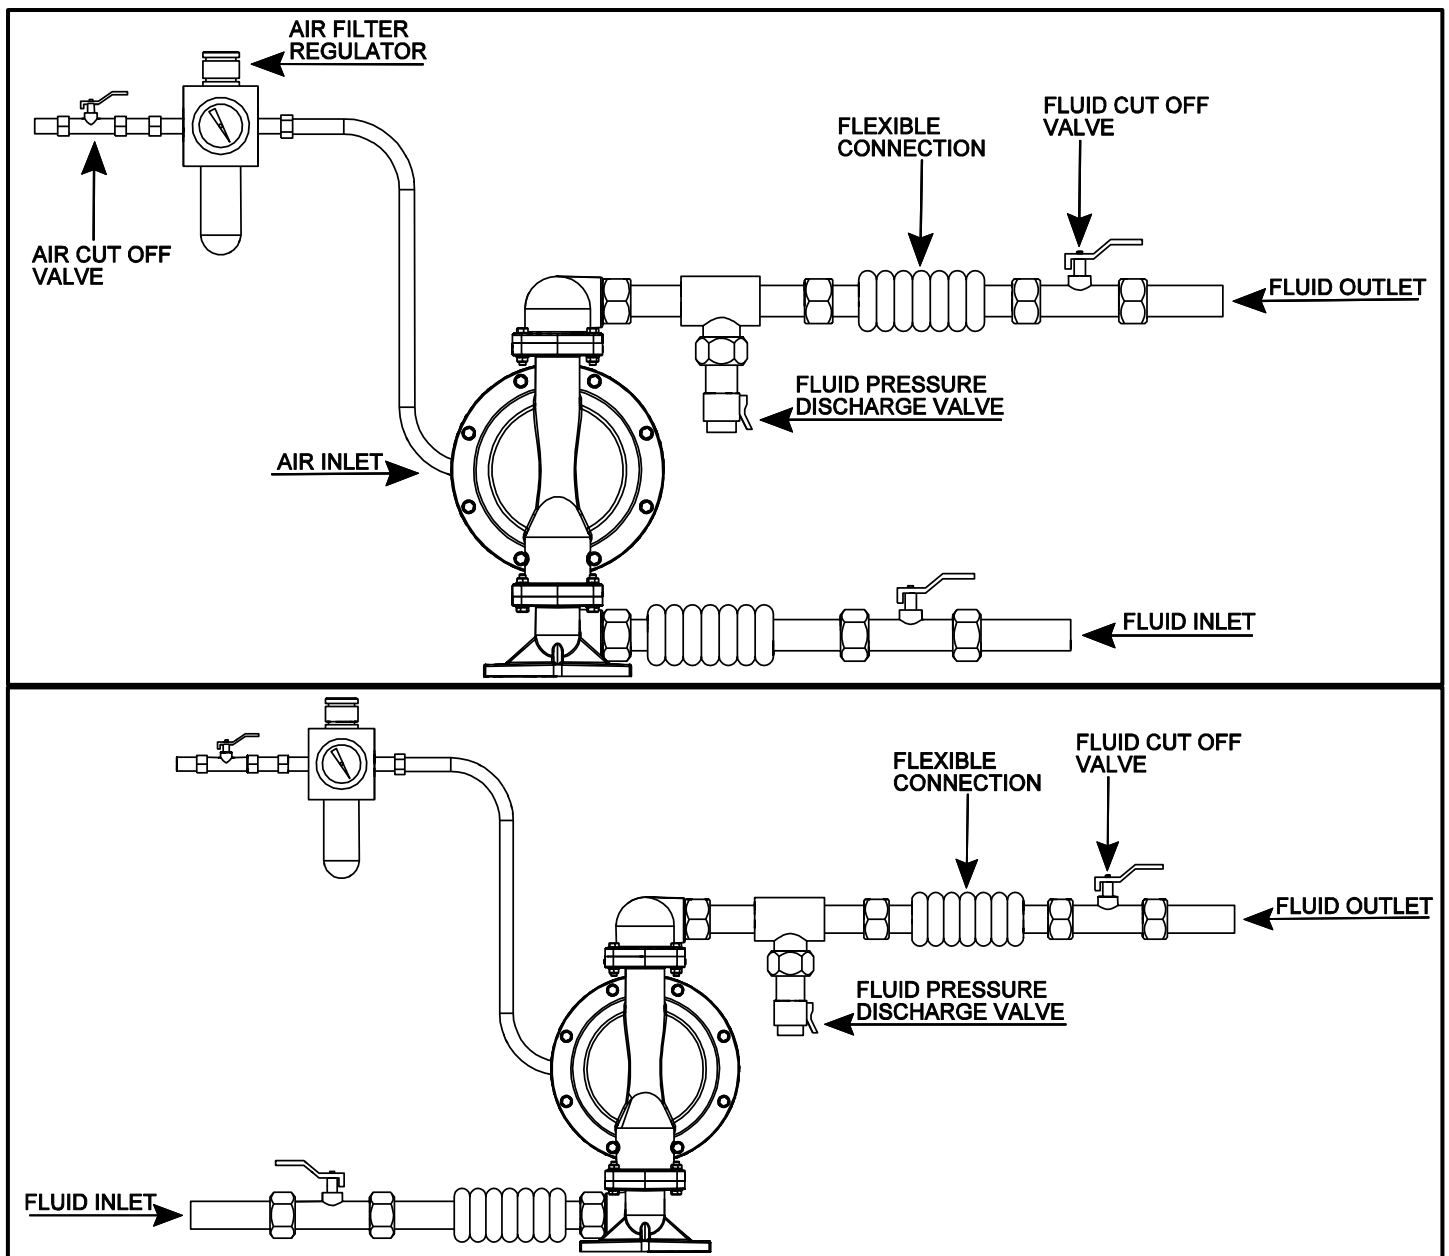

Figure 8a - Typical installation scheme
A bleed-type master air valve is required in your system to relieve air trapped between this valve and the pump. Trapped air can cause the pump to cycle unexpectedly, which could result in serious injury, including splashing in the eyes or on the skin, injury from moving parts, or contamination from hazardous fluids. See Fig. 8a.
- 1- Refer to the Figure 8a for the connection scheme. Fix these accessories to the wall or to a bracket. The air line feeding the accessories must be grounded.